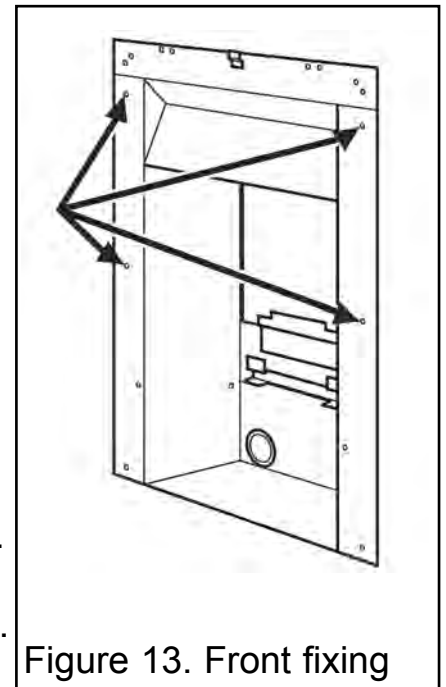

Figure 13. Front fixing
3. Mark the fireplace front surround through the four fixing holes in the side flanges of the convector box (See figure 13).